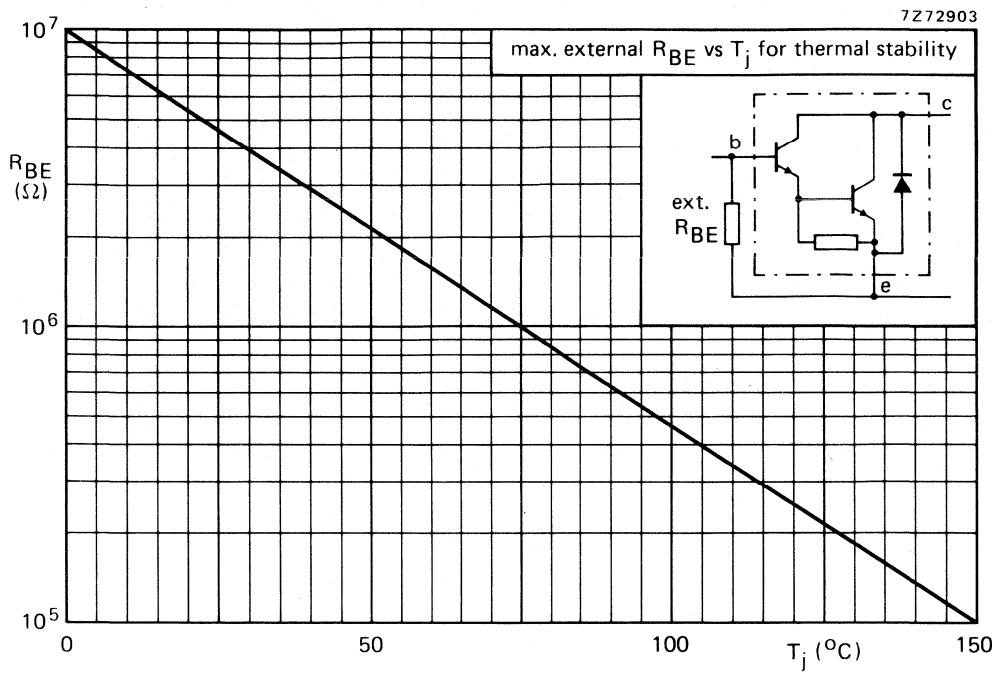

Fig. 12.
* External R_{BE} not to exceed value shown in Fig. 12.